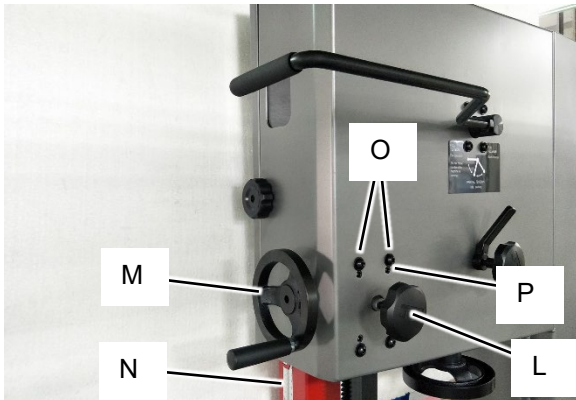

Figure 7-19
Refer to Figure 7-19.
4. Loosen lock knob (L, Figure 7-19) and raise guide post to a high position.
6. If guide post does not go straight up and down (blade begins deflecting when guide post is raised), slightly loosen the four screws (O) and turn any combination of the four set screws (P) as needed to bring guide post into line.
7. When finished adjusting, securely tighten the four screws (O).